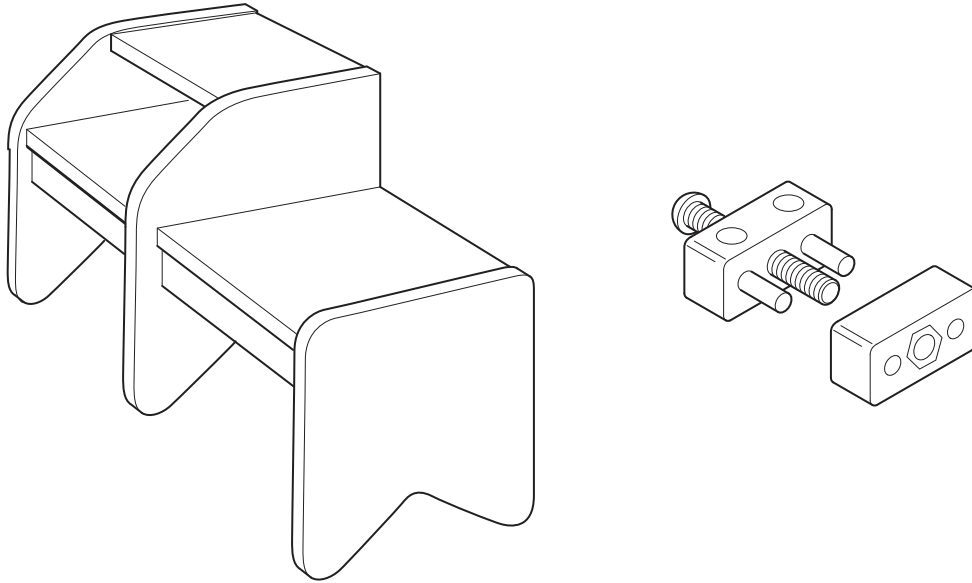

Fig. 5
- 4 Fig. 5 shows a piece of furniture and a knock-down (temporary) fitting.